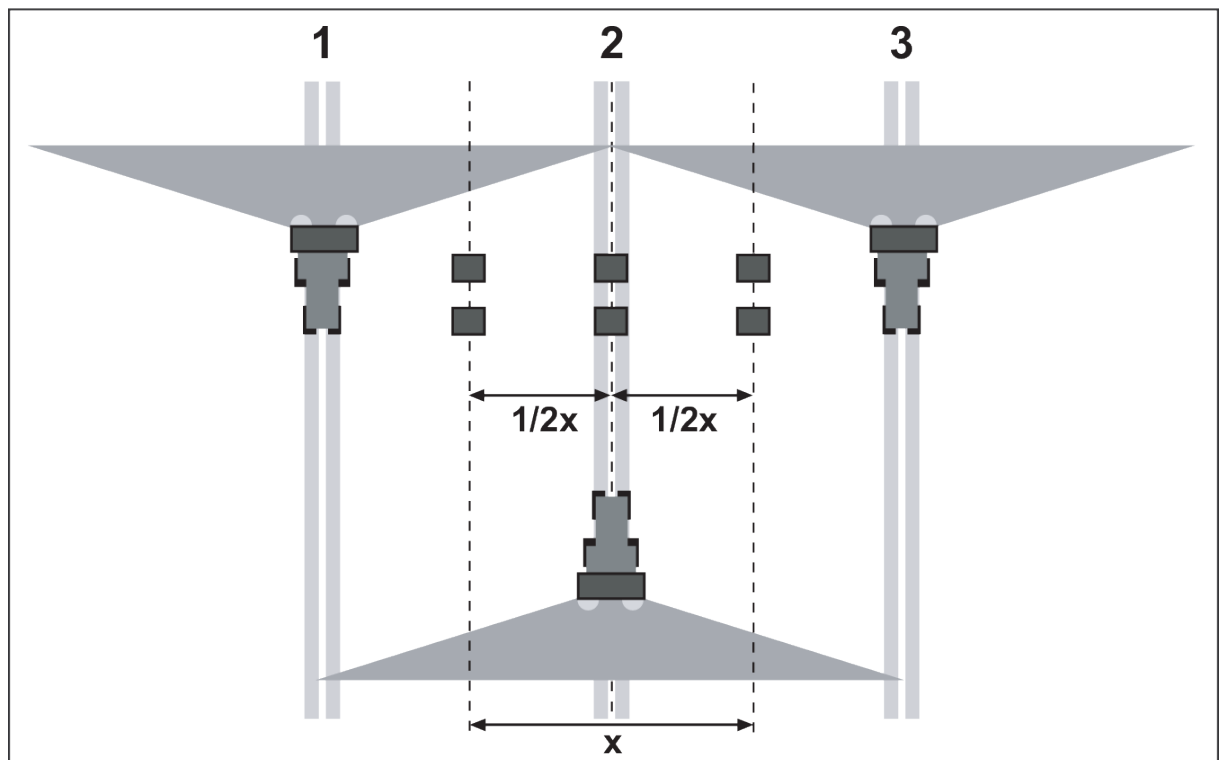

Fig. 52: Layout for three passages
- ▶ Place two collecting vessels one in front of another at a distance of **1 m** in the overlap zones (between the tracks) and in the track (according to Fig. 52)